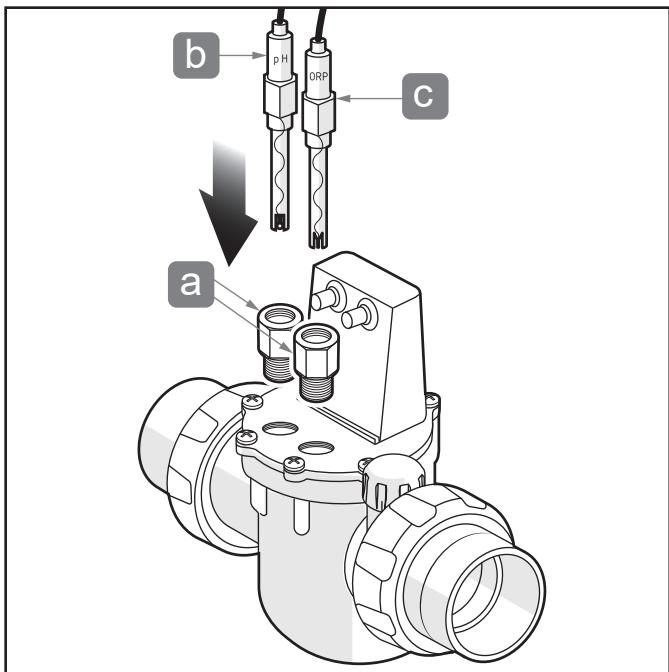

Figure 3. Install Fittings and Sensors
5. Install the sensor compression fittings and their adapted o-rings (provided) in place of sensor plugs, see Figure 3(a). Hand tighten, no tools needed.
7. Loosen the top of the left compression fitting, insert pH sensor into fitting and push down slowly. Hand tighten the fitting once sensor is completely inserted into fitting, see Figure 3(b)
9. Loosen the top of the right compression fitting, insert ORP sensor into fitting and push down slowly. Hand tighten the fitting once sensor is completely inserted into fitting, see Figure 3(c)